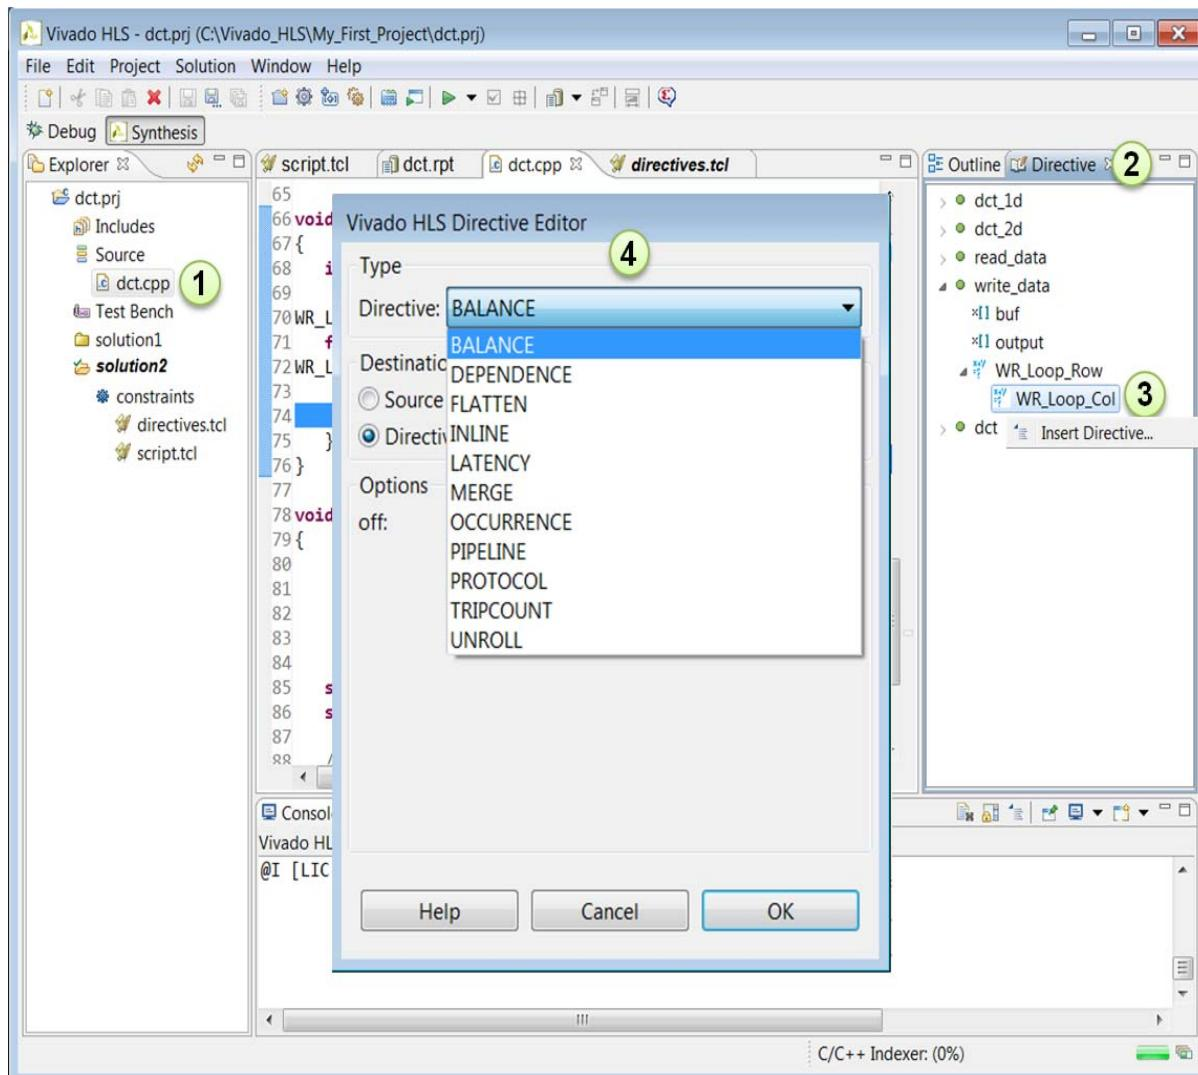

Figure 1-64: GUI Loop Directives
The function can be pipelined, as shown in Figure 1-64 (B), by increasing the initiation interval of the pipeline. The initiation interval is the number of cycles between new input reads.
A complete list of the directives that can be applied to loops can be seen in the GUI (Figure 1-64):